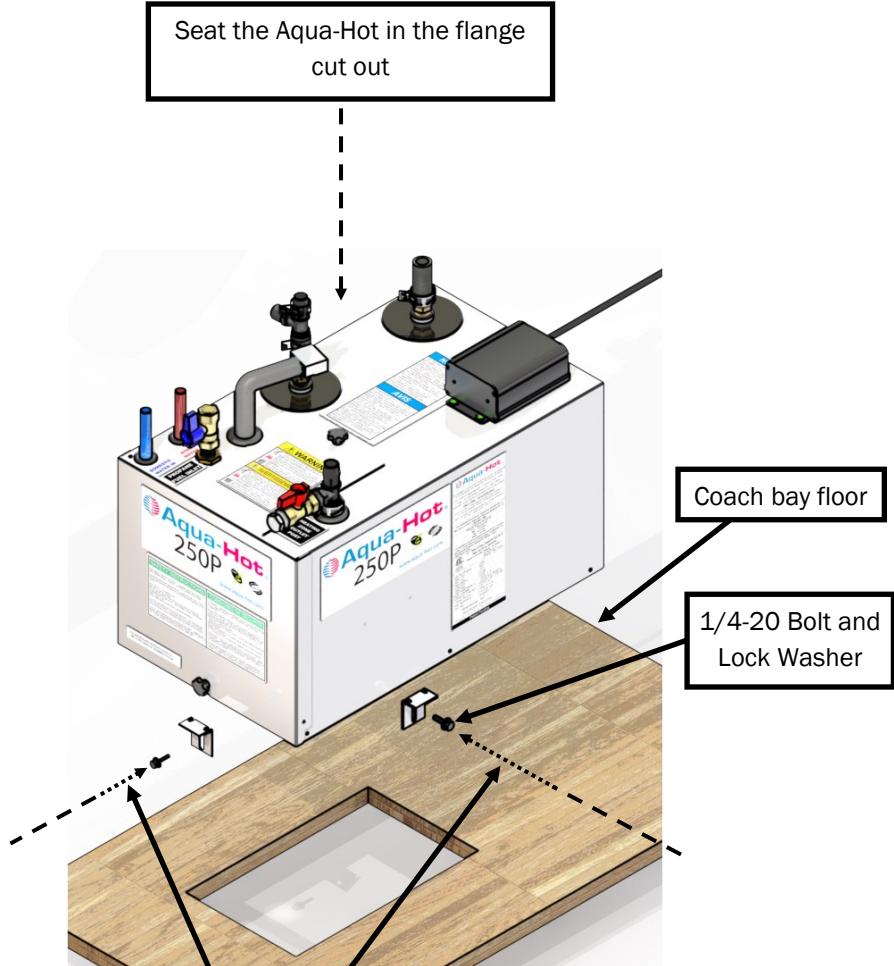
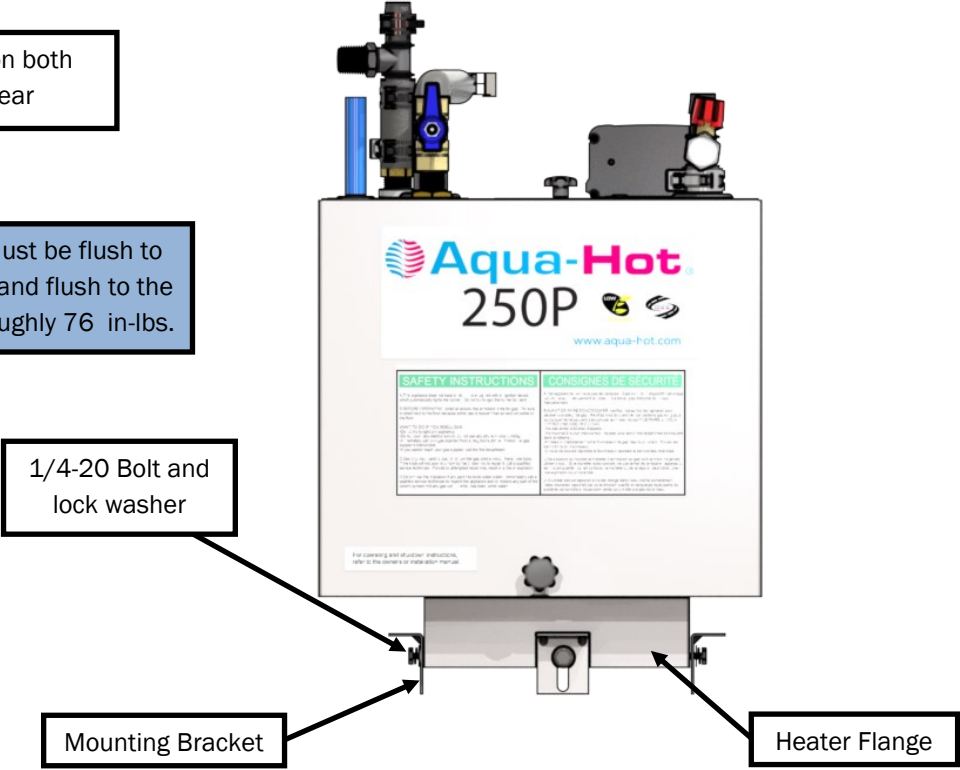

Figure 8
Figure 9
3. Install the flange located on the bottom of the Aqua-Hot into the cutout opening. Reference figure 8 and figure 9